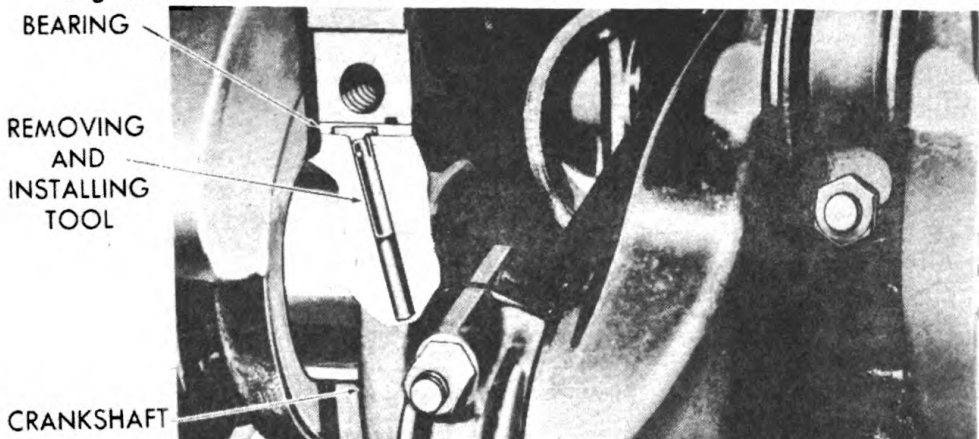

Figure 77—Upper Crankshaft Bearing Removal
a. The upper half of the front and rear bearings have oil holes while the lower halves do not. (Figure 79.) Both halves of the intermediate bearings are the same. Install the upper halves of the new bearings with special replacer. (Figure 77.) Install the lower halves of the bearings and bearing caps. Use new cap gaskets and oil seal at rear bearing. Tighten the bearing cap screws to 75- to 80-pounds with torque wrench. Screw oil suction pipe and strainer into the block and connect the oil pump outlet pipe.